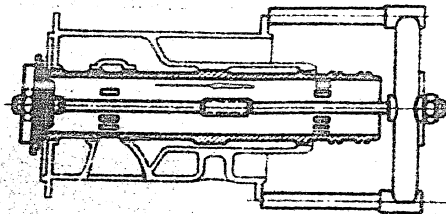

Fig. 10
b) pressing out the Diesel cylinder with the aid of a special tool (Fig. 10).